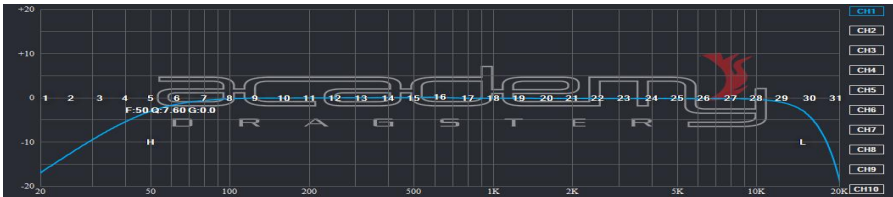

Figure 3.3.8
1. the output channel EQ editing method, all 31 equalizer will work for the next parametric equalizer. When the parametric equalizer curve, if available in the box below the corresponding input parameter values can be (frequency, Q value, and gain) adjusted in real time will also be revealed at the top (as shown in Figure 3.3.8 parametric equalizer case).